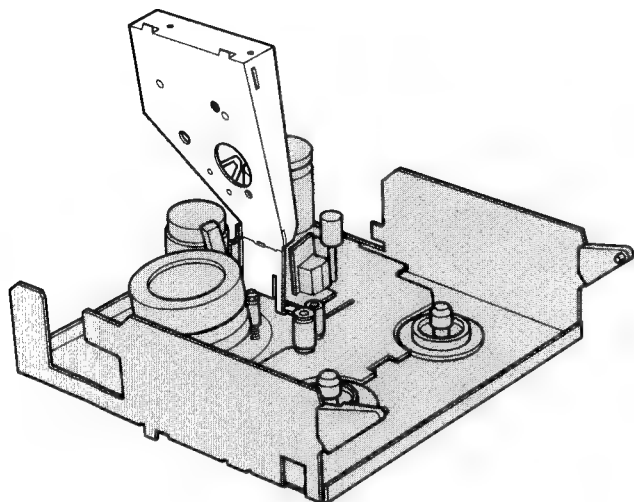

Fig. 1-3
- Swing the cabinet towards the right into perpendicular position (Fig. 1-3).